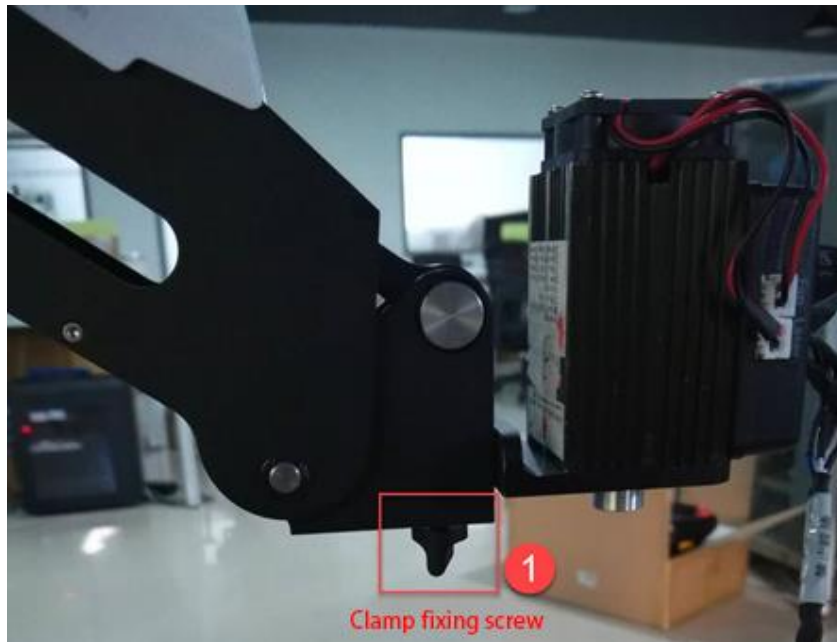

Figure 5.60 Fasten the laser with clamp fixing screw
Step 1 Fasten the laser kit to the Dobot Magician's end with clamp fixing screw, as shown in Figure 5.60.